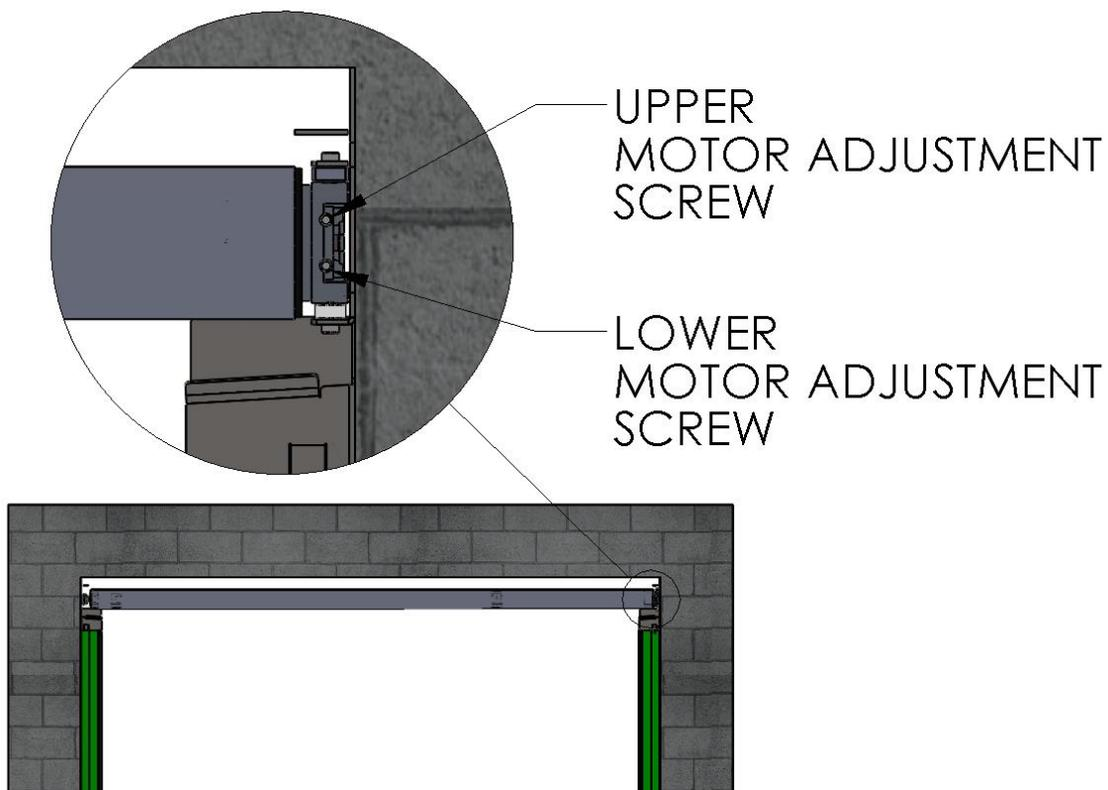

Figure 5: 1200/1800/Basic SERIES DOOR RAISE/LOWER DOOR ADJUSTMENT
- Begin by placing your door in Momentary Run time by placing the JP1 jumper in the 'ON' position (see 'MODE SETTINGS / JUMPERS' on page 3). Always JOG THE DOOR DOWN FIRST, toward the closed position. If the door stops somewhere on its own on the way down, we can begin the limit setting process from that point. If the door does not stop on its own, manually stop the door about 1 to 2 feet above the desired closed position. Now, turn the top dial on the end of the motor counter-clockwise (ccw) to remove travel from the close limit (See Figure 5 on page 7). Keep turning ccw until you feel or hear a slight bump/click in the dial as you turn. Once you reach this point, whether your door stopped on its own, or you stopped it yourself and removed travel manually from the dial, we are ready to set the limit at our desired closed position.
- To set the Open limit, place the JP1 jumper back in the 'ON' position. Jog the door up and stop it 1-2 feet shy of the desired open position. Adjust this limit in the same fashion as you did the close limit, using the lower dial on the motor (See Figure 5 on page 7).